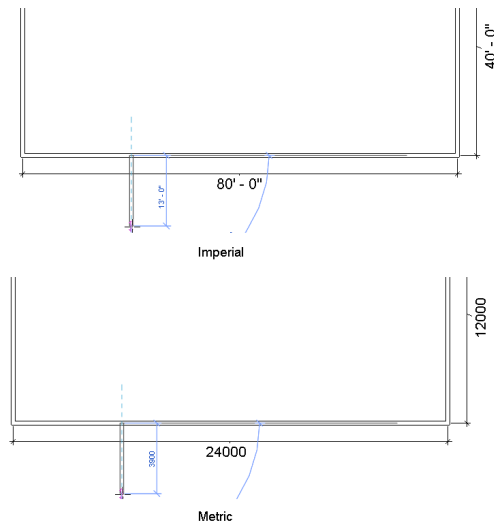

Figure 3-61 The other exterior wall segment created outside the office building
3. Draw **13'0"** line in Imperial system or **3900 mm** line in Metric system from that point in downward direction, as shown in Figure 3-61.